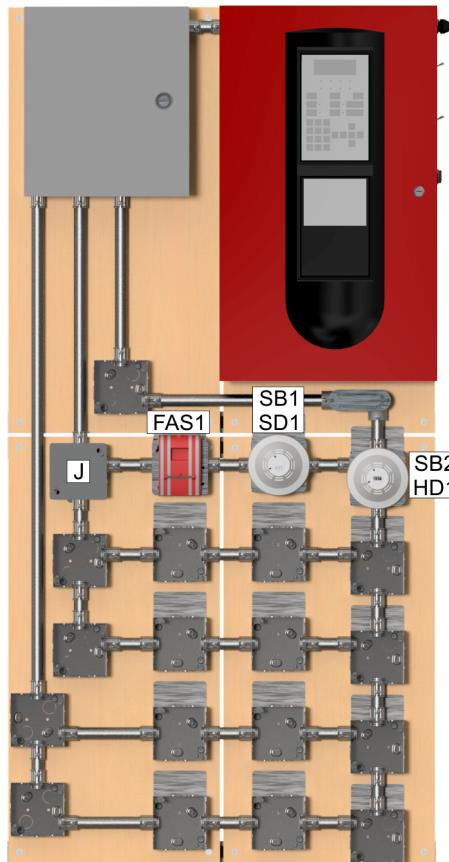

Figure 4. Arrangement of the components on the learning system.
1. Table 6 shows the list of equipment required to perform this Job Sheet. Figure 4 shows the arrangement of the components on the learning system.
- Install a flat cover on junction box J, as shown in Figure 4.